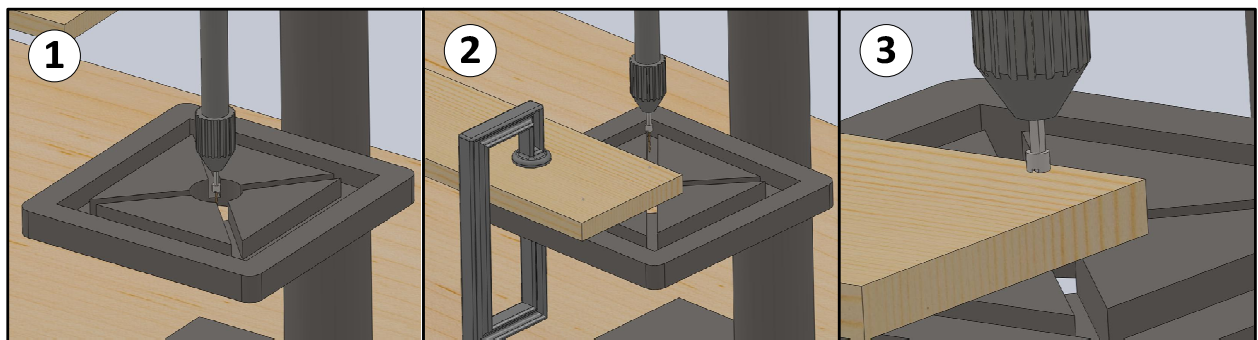

Figure 6: (1) Use the speed square to mark out the next gusset. (2) Two gussets should be completed.
(2) Two gussets should be completed.
- B. Before clamping material onto the **Drill Press** table, make sure the drill bit passes through the center of the **Drill Press** table as shown in Figure 6(1).
- D. Clamp the boards onto the drill press table aligning the hole to be drilled with the drill bit as shown in Figure 6(2).